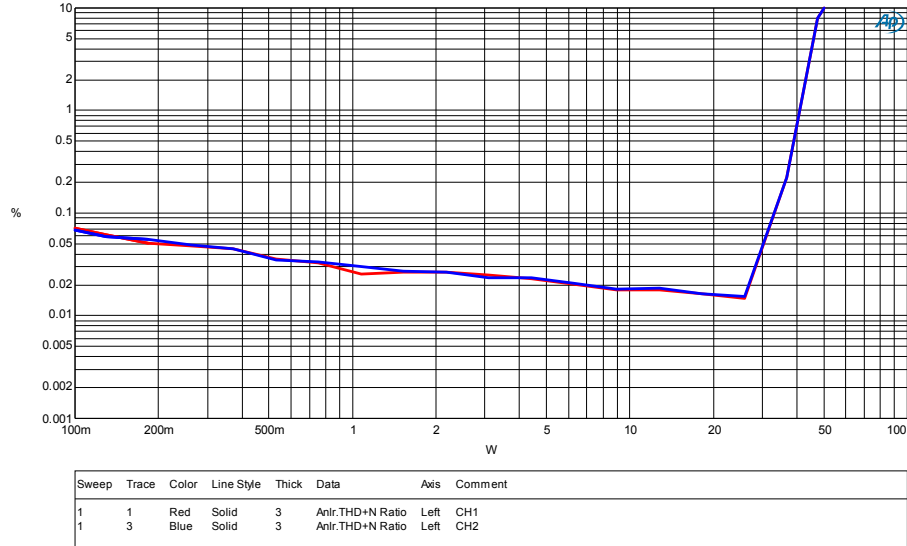

Figure 3
15. For all subsequent tests as shown on the Audio Precision graphs below (Figure 3- Figure12), the measurements are taken across J3 and J4 with an AES-17 Filter. Observe that a 1  $V_{RMS}$  input generates an output around THD+N=1% power level.